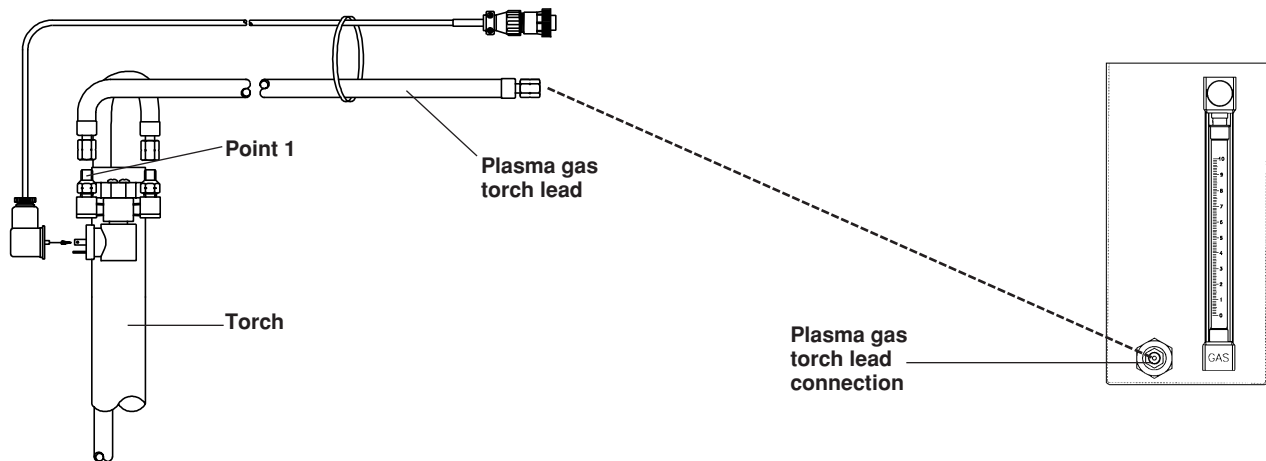

Figure 7-5 Argon-Hydrogen Manifold to Torch Connection Points
Plasma gas torch lead – Argon-Hydrogen Manifold to Torch (Fig. 7-5)
- C. Attach one end of the argon-hydrogen plasma gas torch lead (Fig. 7-4) to the **Plasma gas torch lead connection** located on the front of the manifold. (Fig. 7-5)
- D. Attach the other end of the plasma gas torch lead to **Point 1** on the torch. (Fig. 7-5)
Connect the nitrogen supply to the shield connection at the rear of the gas console. (Fig. 7-5)
3. Remove the argon-hydrogen plasma gas hose from point 1 of the torch. See Figure 7-5.